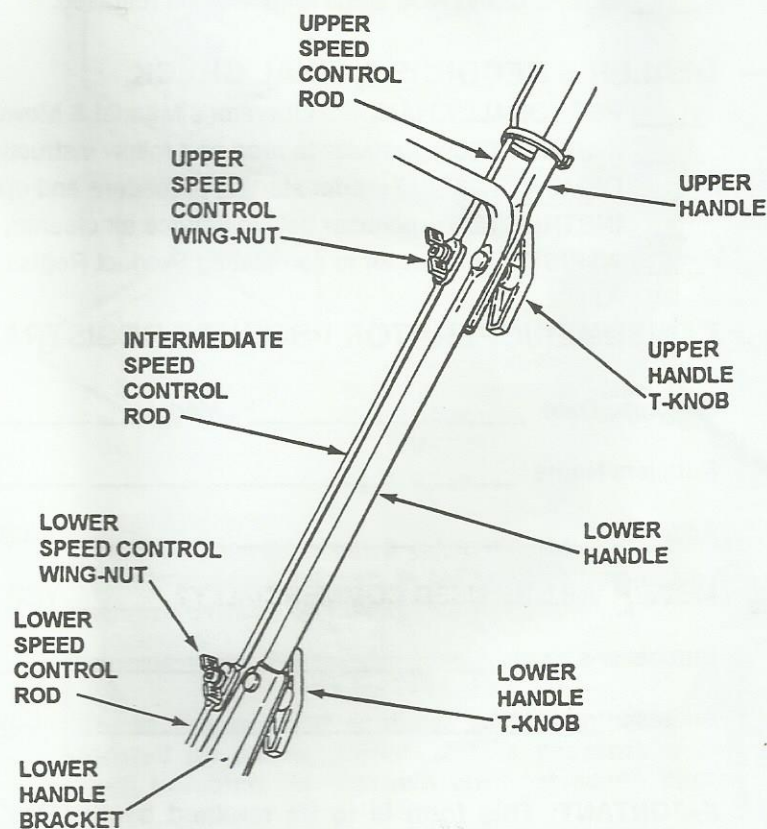

FIGURE 10
STEP 2: Straighten upper handle until it is in line and seats into lower handle. Tighten upper handle T-Knobs on both sides. Straighten locking tab on control rod until it locks into corresponding slot. Tighten upper speed control rod wing-nut. See Figure 10.
STEP 3: Rotate upper/lower handle assembly until it is in line with lower handle brackets, then tighten lower handle T-Knobs on both sides. Straighten locking tab on control rod until it locks into corresponding slot. Tighten lower speed control rod wing-nut. See Figure 10.